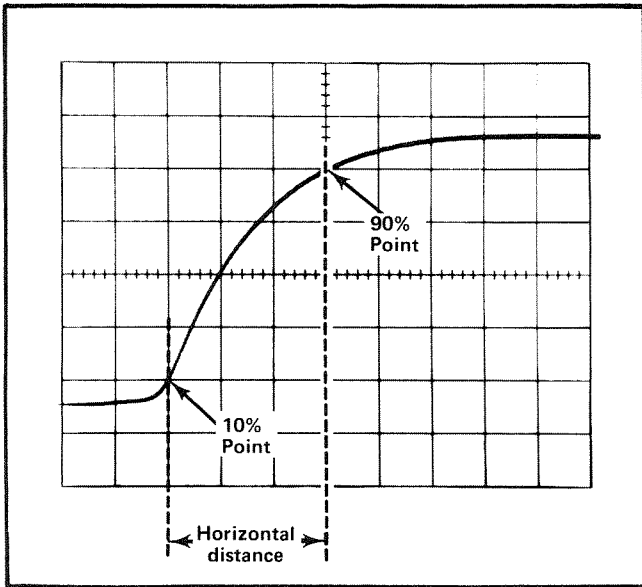

Fig. 2-11. Measuring risetime.
8. Adjust the horizontal POSITION control to move the 10% point of the waveform to the center measurement area. For example, with a five-division display as shown in Fig. 2-11, the 10% point is 0.5 division up from the start of the rising portion.
**Example.** Assume that the horizontal distance between the 10% and 90% points is three divisions (see Fig. 2-11) and the TIME/DIV switch is set to 1  $\mu$ s with the MAG switch set to X10. Applying the time duration formula to risetime: